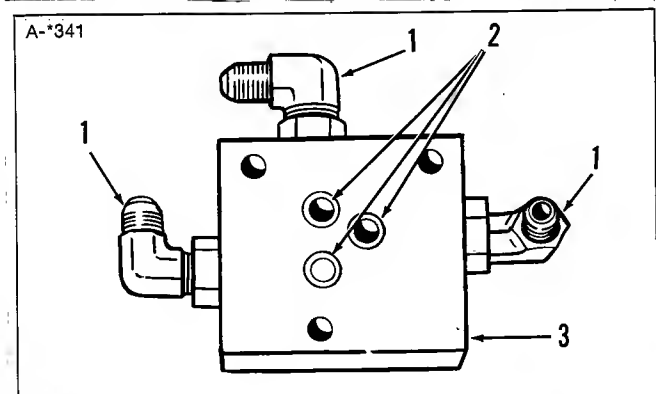

Figure 4.
- b. Install the three elbows (1, figure 4) as shown into manifold. Place the manifold in a vise with brass jaws to tighten. Tighten the elbows and then tighten the nuts against the manifold while holding elbows. Make sure the elbows are positioned as shown in figure 4.
- c. Place three O-rings (2, figure 4) in the manifold.